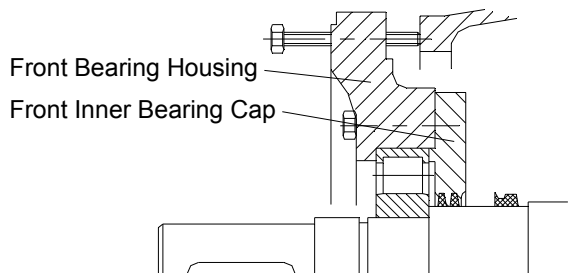

Fig. 1
1.1.1 - Disassembly of Front Bearing (referring to fig. 1)
Referring to the fig. 1, screw in the four M12 screws uniformly to the M12 threaded holes in the front bearing housing until the front bearing housing and the inner bearing cap are ejected.